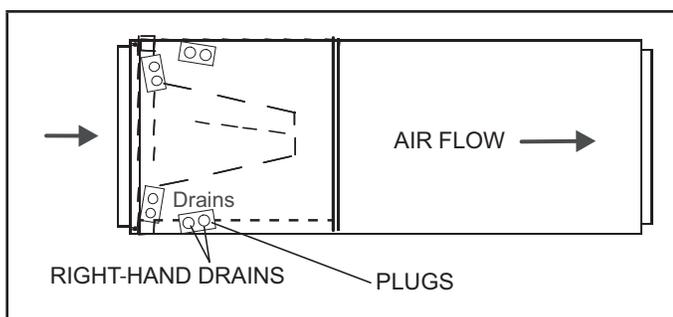

FIGURE 5. Right-Hand Discharge Configuration
- 5 - The horizontal configuration is shown in FIGURE 5.